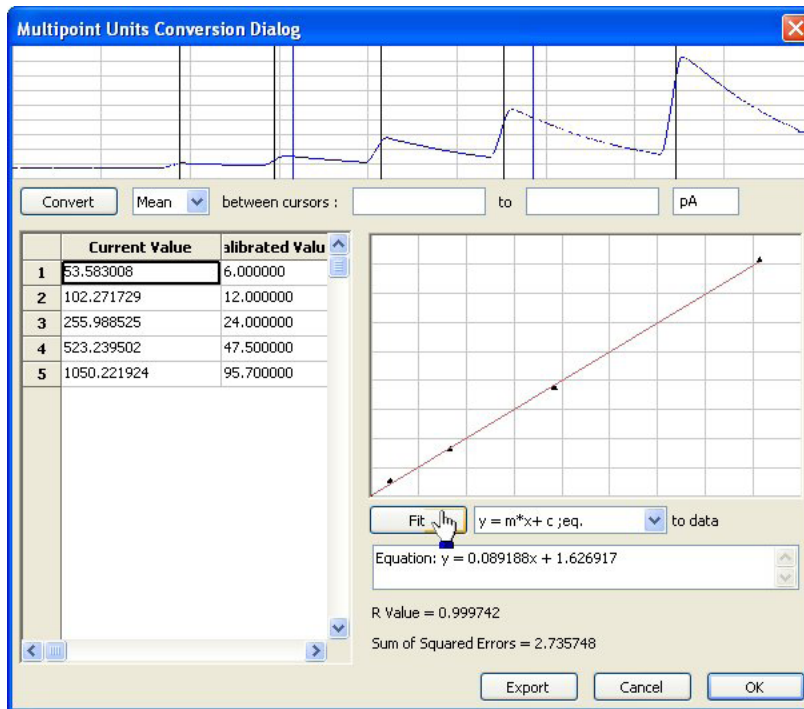

Fig. 46—Multipoint Units Conversion dialog box, with graph
- After all the values have been entered, click the **Fit** button to generate the linear regression equation and its R value. The calculated conversion graph then appears on the right side of the dialog box, and the equation and R value are printed below it. The closer the R value is to one, the greater the accuracy of the calibration (Fig. 46).
- If desired, export the equation to a text file by pressing the **Export** key (Fig. 46).
- Click the **OK** button. A new comparison channel displays at the bottom of the main LabScribe window. When applied to the raw data in Figure 46, a typical Hamming filter generates a less noisy output trace similar to the raw data in channel (Fig. 49).